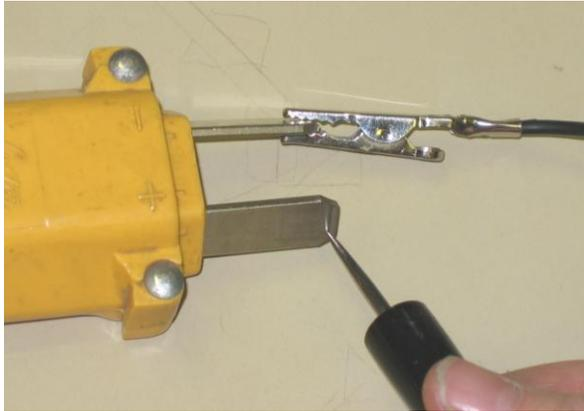
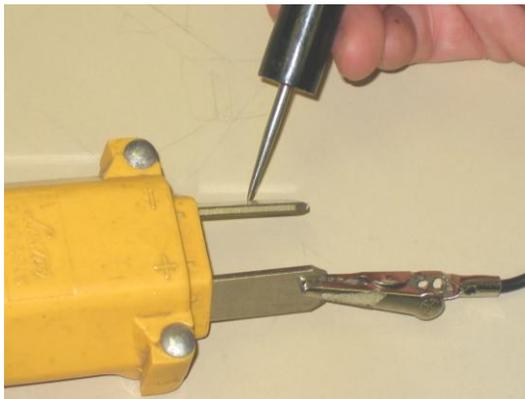

Figure 2
Figure 3
- a. Connect tester clip to negative (-) blade and the probe to positive (+) blade (Figure 2). **CIRCUIT SHOULD BE COMPLETE.** If not complete, first check the DC fuse link. If one or both fuses have blown, the link will be broken and usually the clear plastic fuse cover will be discolored. Refer to "Fuse Link Blowing" for test procedures. If fuses are good, individually check the fuse connections, DC cord, and diode connections (each may be checked with the continuity test light).
- b. If the circuit in Figure 2 is complete, reverse test light leads as shown in Figure 3. **CIRCUIT SHOULD NOT BE COMPLETE.** If circuit is complete, check DC cord for a "short" between the two wires. More probably, one or both diodes have "shorted". Refer to "Fuse Link Blowing" part (b) for continuity test of diodes.
- c. If (a) Figure 2 and (b) Figure 3 check good, assume the capacitor is shorted. Remove one wire from a capacitor terminal and place continuity tester clip to one terminal